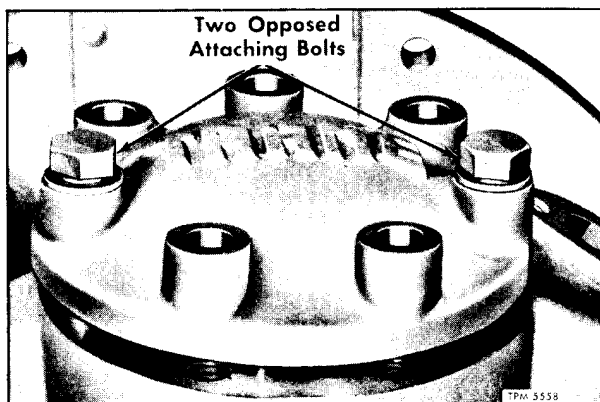

Figure 42—Method of Removing Cylinder Head Cover
2. Examine cylinder head (17) to see if head is following the attaching bolts (fig. 42). If not, tap the head with a plastic hammer until head O-ring seal (16) breaks loose.